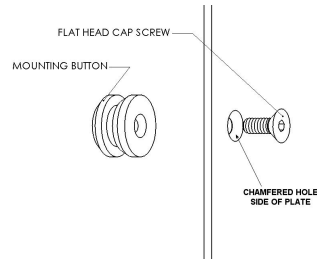
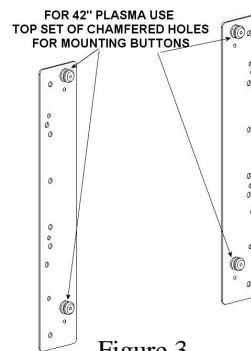
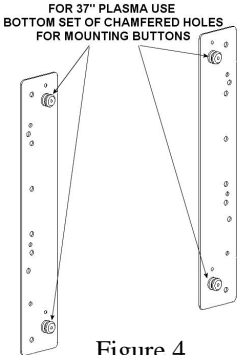

Figure 2
Figure 3
Figure 4
1. Using a 10-24 flat head cap screw inserted from chamfered hole side of bracket, secure mounting button, with chamfered hole of mounting button (larger surface) facing bracket, to bracket (four places) (see Figure 2, Figure 3 & Figure 4).